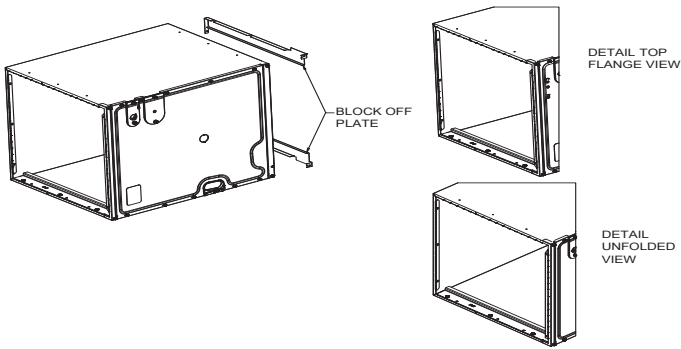

Figure 4
5. **Filler Plates:** Filler plates are supplied on all 17.5, 21, & 24.5 inch chassis to be used for adapting the unit to a furnace one size smaller. If the plenum and furnace openings are the same size, the filler plates must be removed. See Figure 4.